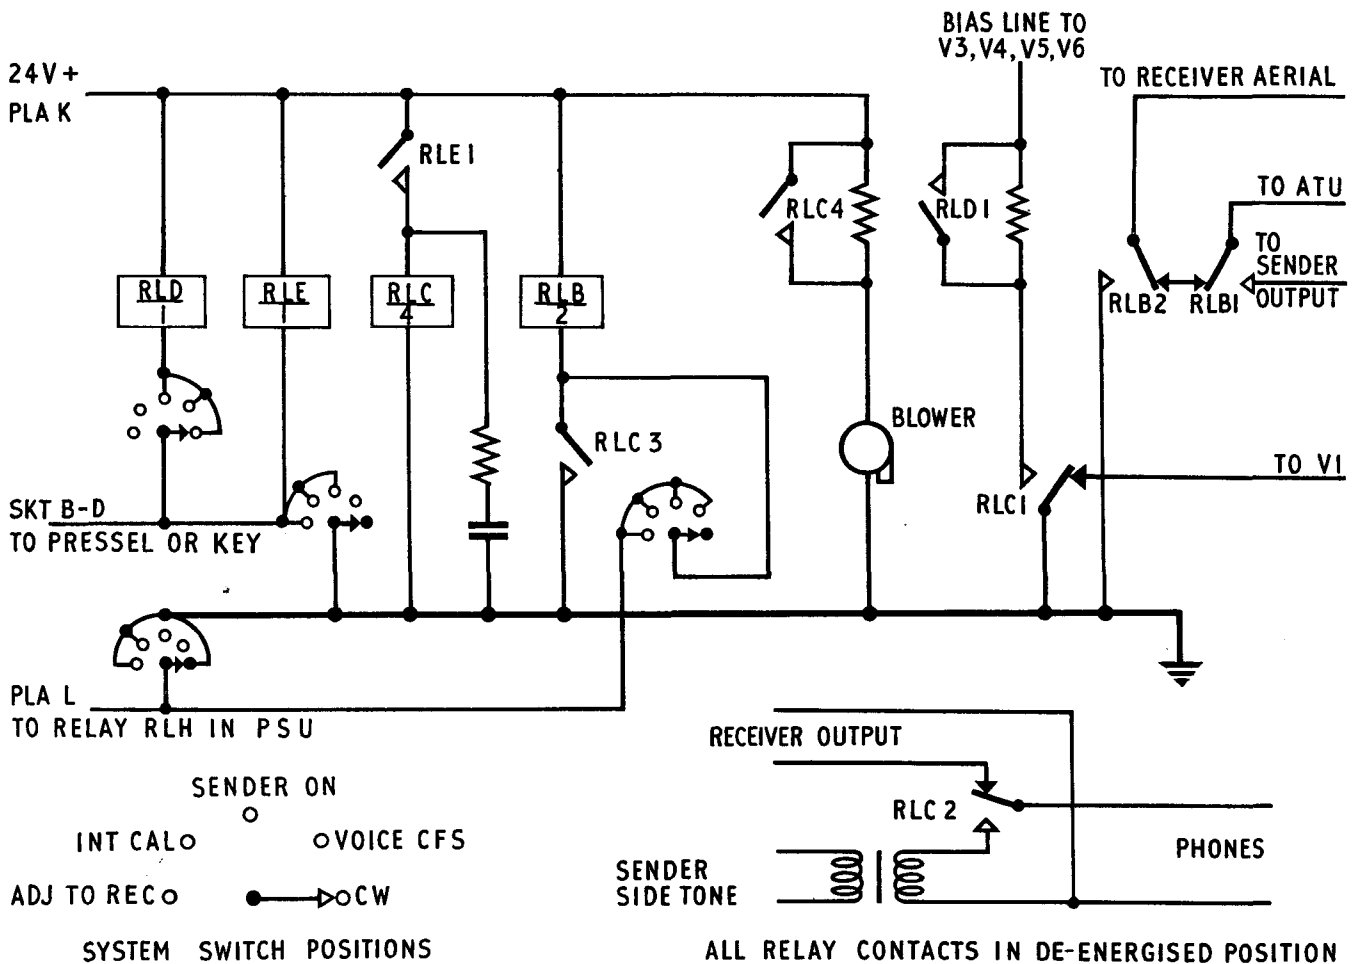

FIG. 14 RELAY CIRCUIT
Four relays are incorporated in the sender. Fig. 14 shows the relay circuit. In this description, a line under a relay contact indicates that the relay is in an energised or operated condition at that instant. The functions of the relays are as follows:
- (j) Contact RLC2 connects the operator's headphones to the receiver output as shown in fig. 14.
- (k) Contact RLC3 is open. This contact removes the earth connection from relay RLB, and also, at certain positions of the system switch, from relay RLH in the DC power supply unit. See fig. 14.
When the system switch is turned to CW, as shown in fig. 14, relay RLH in the DC power supply unit is energised, and this starts the rotary transformer. Each time the key is pressed, sender relays RLD, RLE, RLC and RLB operate as described on the opposite page, and power is transmitted from V1 via V2, V3, V4, V5, V6 and the aerial tuning unit to the aerial. As the key is released and contact RLD1 opens, valves V3 to V6 become biased back beyond cut-off and no power is transmitted.
transformer starts running when the relay is energised by one of the following operations. See fig. 14 on page 21.